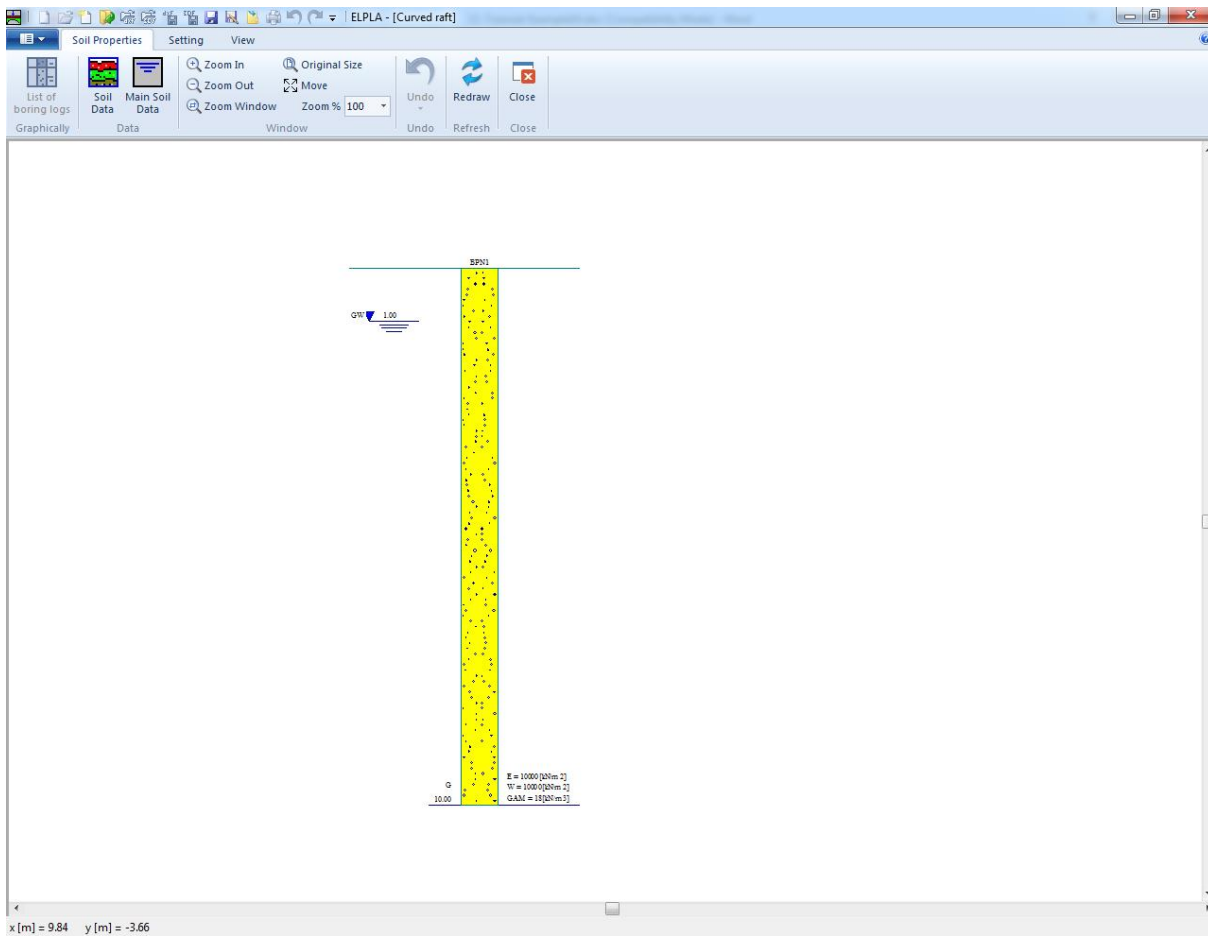

Figure 10.20 "Soil Properties" Window with a default-boring log
To define the soil properties, choose "Soil Properties" command from "Data" Tab. the following Window in Figure 10.20 appears with a default-boring log.
- Choose "Soil data" command from "Data" menu Figure 10.20.
To enter the main soil data for all layers, choose "Main Soil Data" command from "Data" menu in Figure 10.20. The following dialog box in Figure 10.22 appears with default main soil data. The main soil data for the current example, which are required to be defined, are the settlement reduction factor α [-] and the groundwater depth under the ground surface G_w [m]. Any other data corresponding to main soil data are not required in this example. Therefore, the user can take these data from the default soil properties.